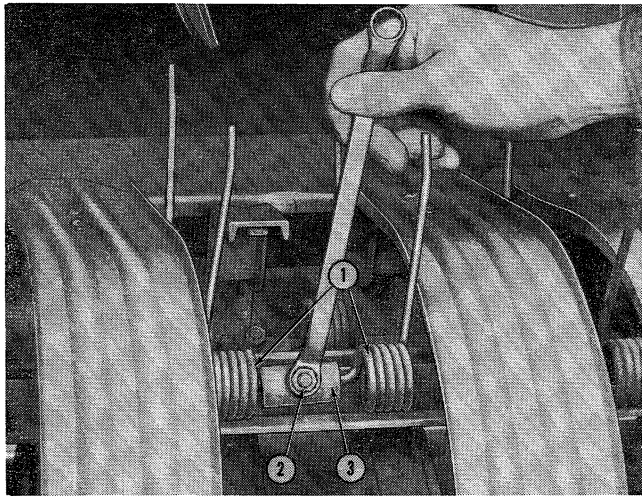

Figure 94
3. Remove the lock washer and nut (2), Figure 94, and the clamp (3), then replace the damaged spring tooth with a new assembly (1). Secure with a clamp (3), and lock washer and nut (2).